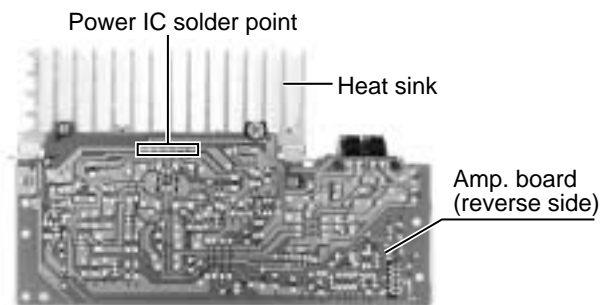

Fig.15
■Removing the power IC (See Fig.15 and 16)